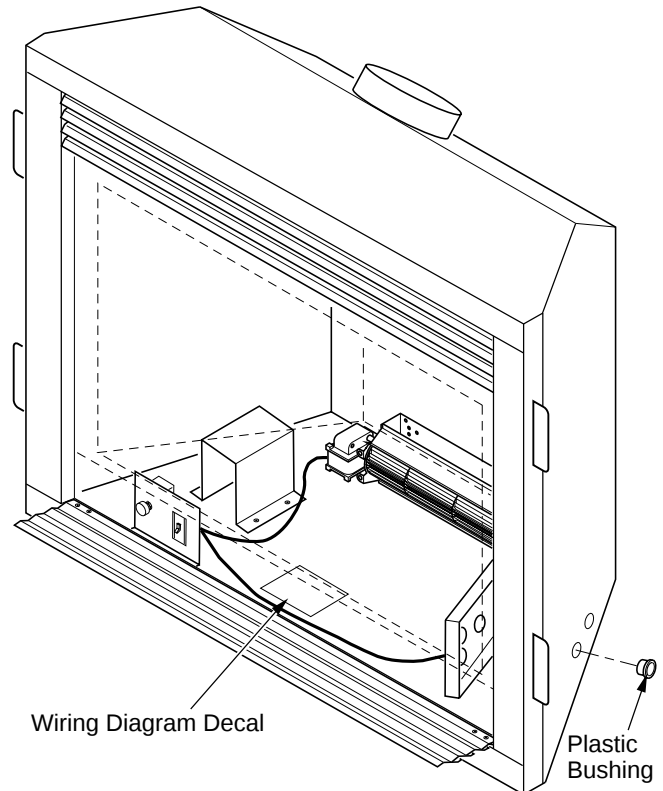

Figure 26 - Installing Plastic Bushing for Power Cord and Locating Wiring Diagram Decal
- a. If your fireplace system is installed as a freestanding unit with an accessory mantel, determine whether the power cord will exit the left side or the right side of the firebox. Install one plastic bushing (provided) into the 1 1/2" hole in the outer casing through which the power cord will exit. Install the second plastic bushing (provided) into the floor support bracket if exiting through the right side (see Figure 26, page 11). Route power cord through (both) plastic bushing(s) and plug the power cord into a properly grounded 3-prong wall receptacle near the firebox.
12. Peel off the backing paper and stick the supplied wiring diagram decal on the outer casing bottom approximately 3" to the right of the blower speed control (Figure 26).